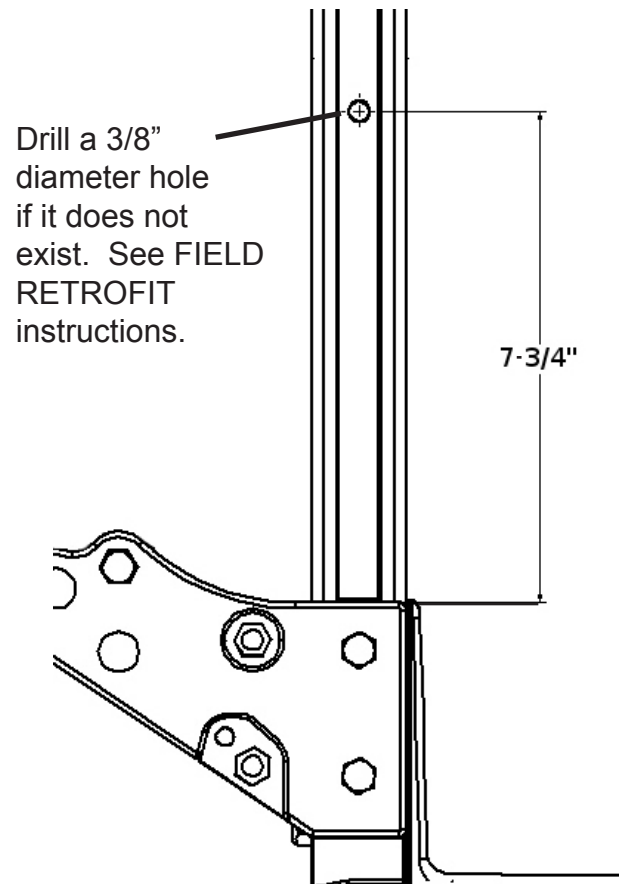

Figure 3
1. Using a ruler or tape measure, mark a location in the center of the side rail 7 3/4" above the wheel bracket as illustrated in Figure 3 on both sides.